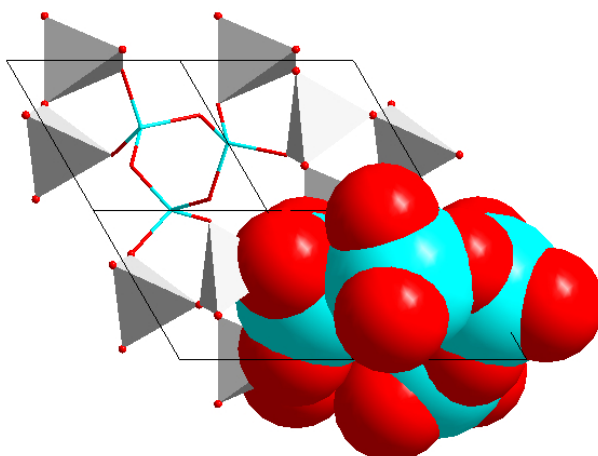

Fig. 20: Three models in the same structure picture reveal different aspects of the crystal structure of quartz.
current selection. As you see, the network consisting of four-bonded (Si) and two-bonded (O) atoms clearly becomes visible (fig. 20).